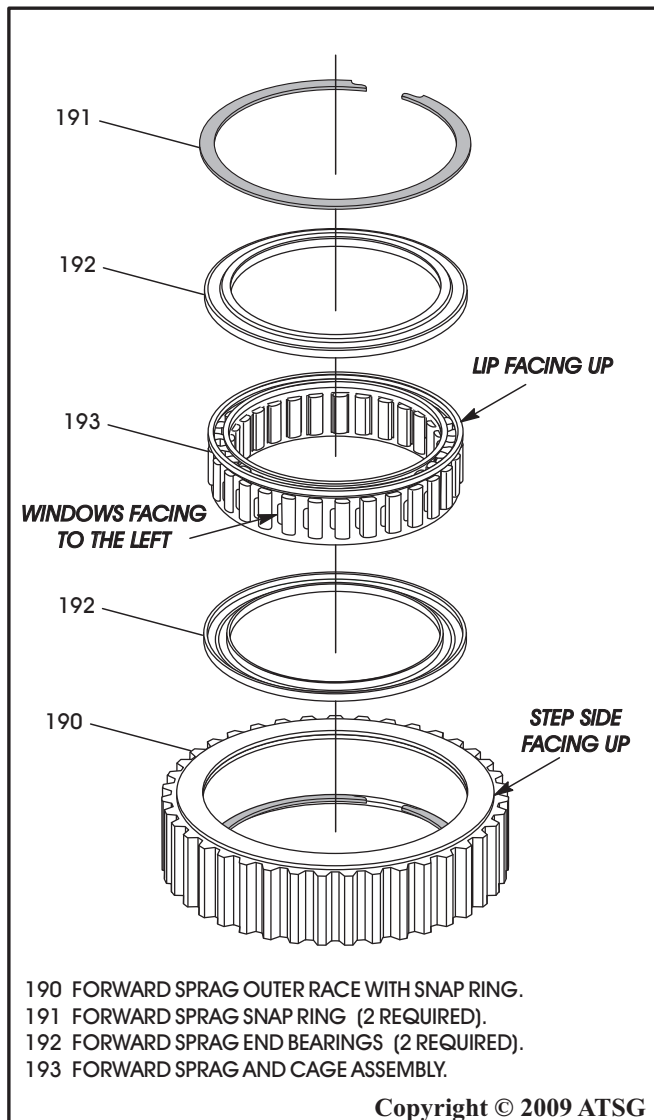

Figure 157
6. Turn the outer race over so the "step" side is facing up, as shown in Figure 157.
7. Install 1st of the end bearings with the "step" facing down, as shown in Figure 157.
8. Install the forward sprag and cage assembly, as shown in Figure 157.
- Note: Install with the "lip" facing up and the "windows" facing to the left, as shown in Figure 157.**
9. Install the last of the end bearings with "step" facing up, as shown in Figure 157.
10. Install the last snap ring into the groove in the outer race, as shown in Figure 157.